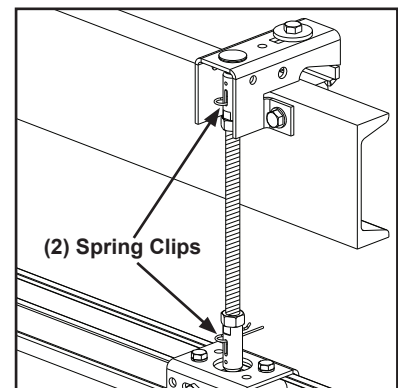

Figure 3-44
- Step 6. Drill into threaded rod through each thread slot with a 1/8 in (4 mm) drill bit and insert spring clips. See Figure 3-44.